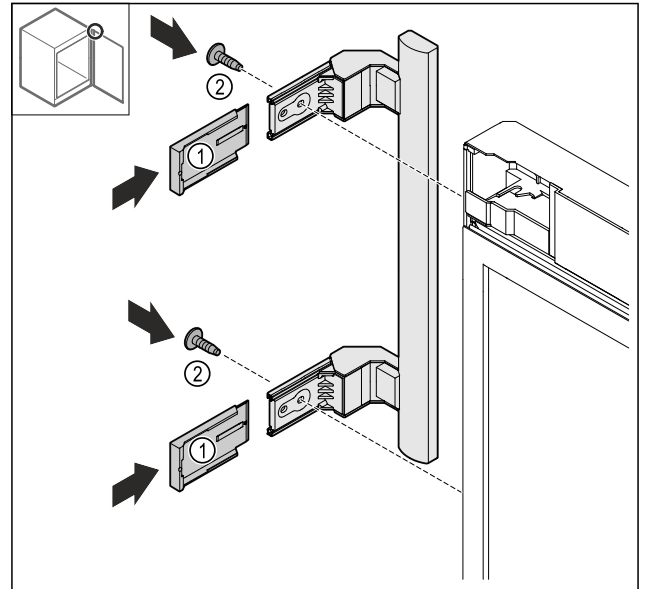

Fig. 21
- ▶ Push the covers Fig. 21 (1) on.